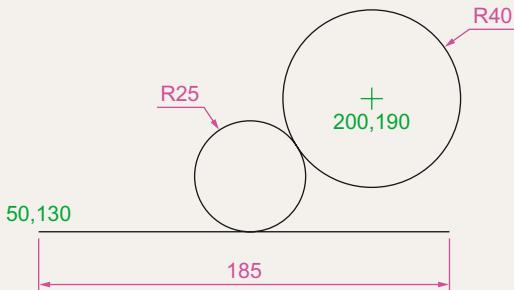

Fig. 2.32 Exercise 5
5. In an acadiso.dwt screen and using the Circle and Line tools, construct the line and circle of radius 40 shown in Fig. 2.32. Then using the Ttr prompt add the circle of radius 25.